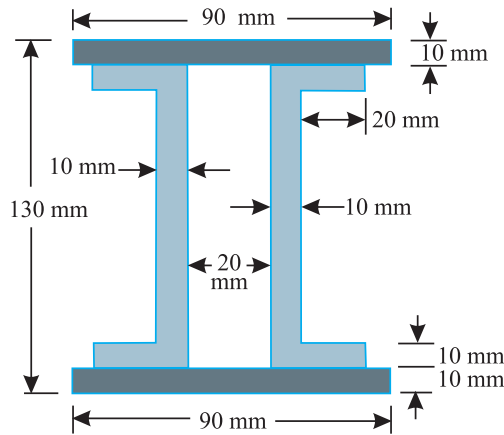

Fig. 7.22.
**Example 7.18.** A built up section is made by nesting two channel sections as shown in Fig. 7.22.